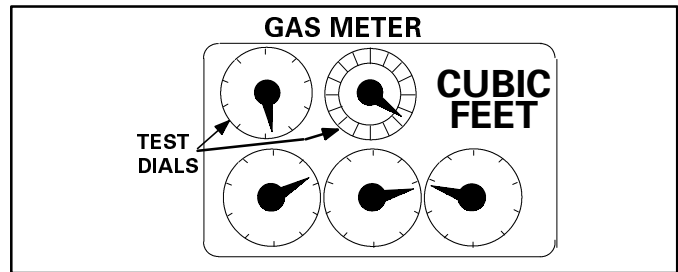

FIGURE 44
- 3 – At the gas supply meter and using either one-, two-, three- or five-foot dial on the meter, time one full revolution (in seconds) with a watch. See figure 44.